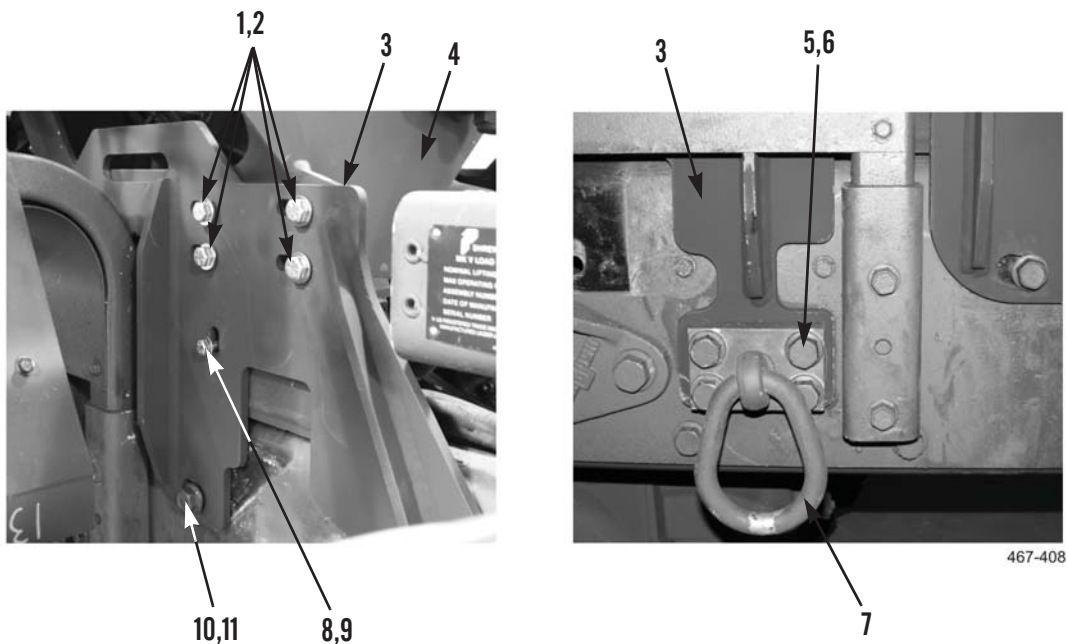

Figure 18. Secure HEMTT Stowage Assembly.
54. Tighten 12 bolts (Figure 18, Item 1) and nuts (Figure 18, Item 2) securing stowage assembly (Figure 18, Item 4) to right and left support brackets (Figure 18, Item 3).
55. Tighten four bolts (Figure 18, Item 8) and nuts (Figure 18, Item 9) securing right and left brackets to spacers.
56. Tighten six bolts (Figure 18, Item 10) and nuts (Figure 18, Item 11) securing right and left brackets to frame.
57. Tighten eight bolts (Figure 18, Item 5) and nuts (Figure 18, Item 6) securing right and left tiedown rings (Figure 18, Item 7) to frame.